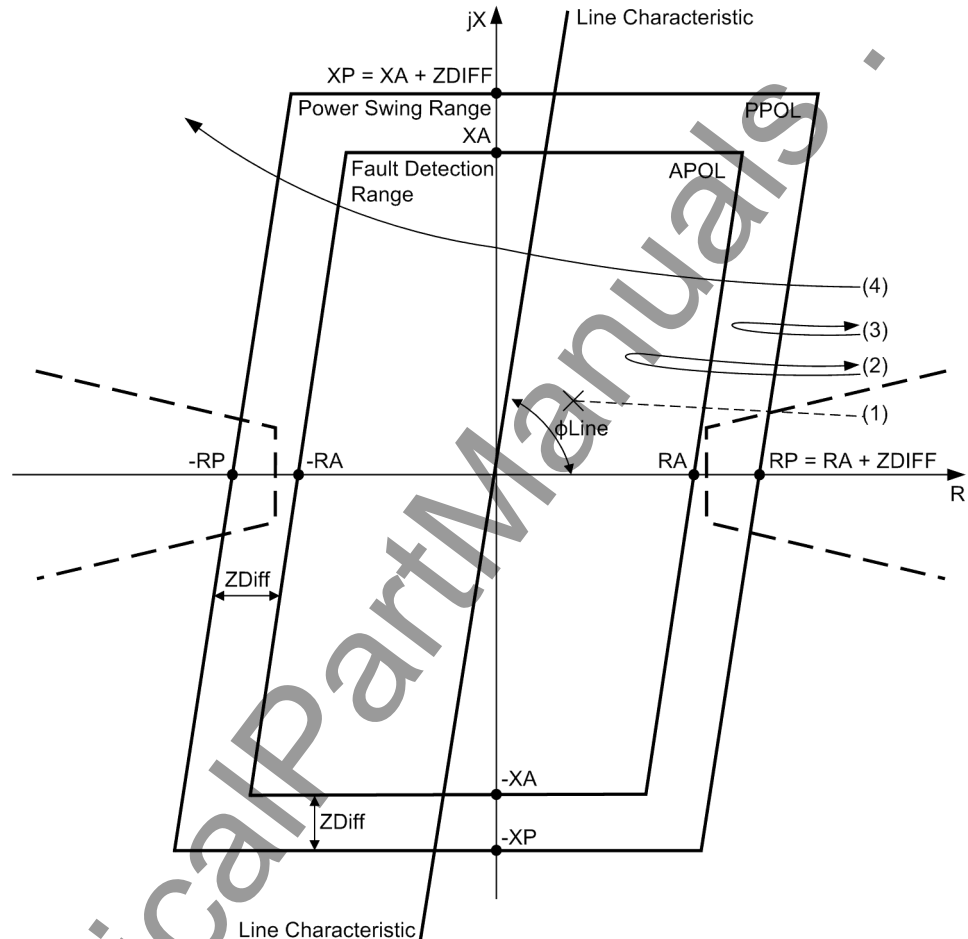

Figure 2-36 Pickup characteristic of the power swing detection for a polygon.
To detect a power swing, the rate of change of the impedance vectors is measured. The message is triggered when the impedance vector enters the power swing measuring range PPOL (refer to Figure 2-36) and the other criteria of power swing detection are met. The fault detection range APOL is made up of the largest set values for R and X (polygon characteristic) or of the largest set value for ZR (MHO characteristic) of all the activated zones. The power swing zone has a minimum distance Z_{Diff} of 5 Ω (at $I_{Nom} = 1$ A) or 1 Ω (at $I_{Nom} = 5$ A) in all directions from the fault detection zone. In the event of a short-circuit (1), the impedance vector abruptly changes from the load condition into this fault detection range. However, in the event of a power swing, the apparent impedance vector initially enters the power swing range PPOL and only later enters the fault detection range APOL (2). It is also possible that a power swing vector
When the impedance vectors identified by the power swing detection exit the power swing characteristic PPOL, the sign of the R components in the vectors are checked to see if they are the same on exiting and entering the pickup polygon. If this is the case, the power swing process is inclined to stabilize. Otherwise, the vector passed through the power swing characteristic (loss of synchronism, case (4) in Figure 2-36). Stable power transmission is then no longer possible. The device outputs an alarm to that effect (No. 4163 "68 P/Swing unst"), provided that the parameter in address 2006 **68T P/S trip** is set to **NO**. The alarm No. 4163 "68 P/Swing unst" is a pulse with a duration of approx. 50 ms, which can also be processed further via output relay, e.g. for a cycle counter or a pulse counter.